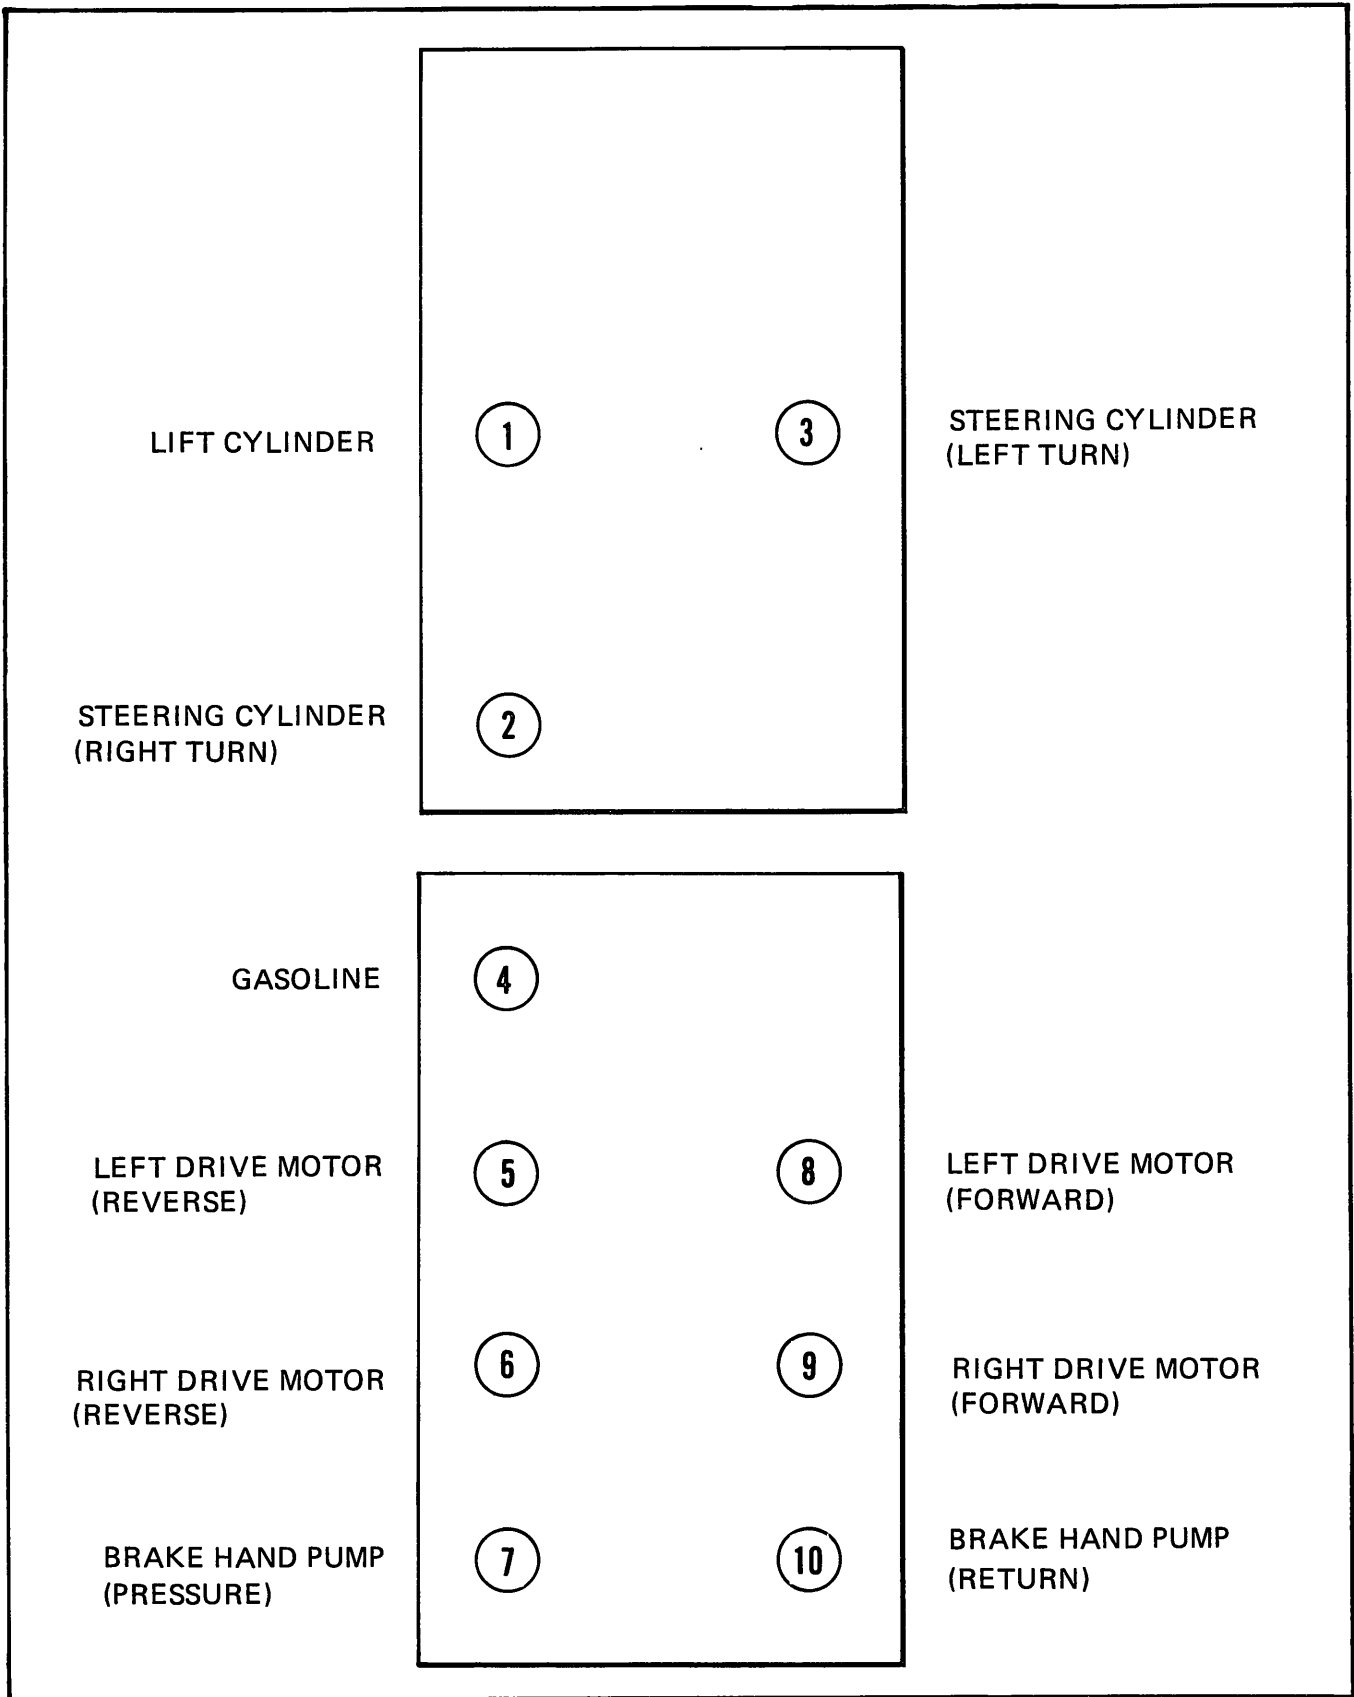
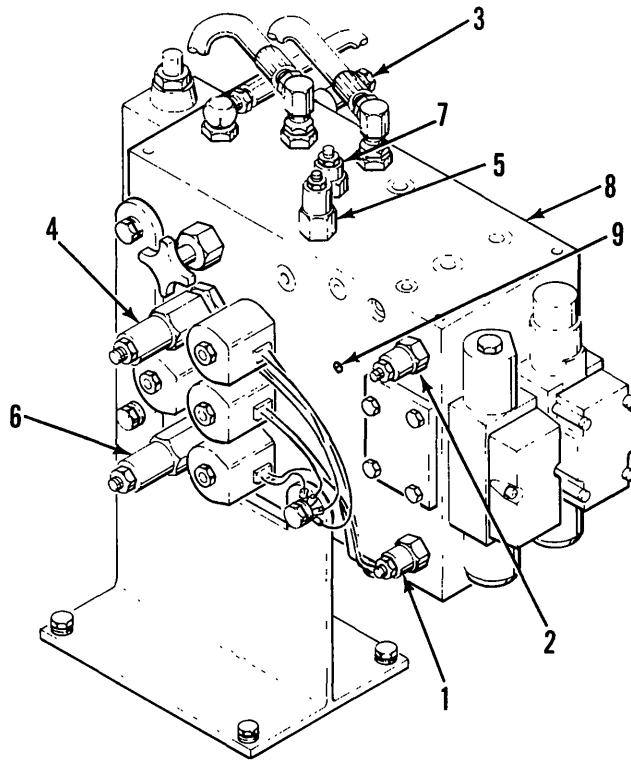

Figure 5-5. Power Module Junction Hose Orientation
Figure 5-6. Hydraulic Pressure Adjustment
(1) Refer to Figure 5-5 and disconnect the lift cylinder hose (1) and install a flow meter, pressure gage and needle valve test set with a hose to return the oil to the hydraulic reservoir.
(2) Operate the engine or electric motor 10 to 15 minutes to warm the oil.
(3) Refer to Figure 5-6 and loosen the locknut on the lift circuit relief valve (4).
(4) Screw the adjusting screw IN until it bottoms, to increase that valve's pressure setting high enough to render that valve inoperative, causing the main relief valve (5) to open first.
(5) Position the mode switch to LIFT.
(6) Position the lift switch to UP and hold it there.
(1) Remove the gauge port plug (9, Figure 5-6) and install a 3000 psi pressure gauge, or if the main relief valve has just been adjusted, leave the test set connected to the power module but remove the return line hose from the test set and connect the test set to the hose leading to the lift cylinder.
- (2) Operate the engine or electric motor 10 to 15 minutes to warm the hydraulic oil.
- (3) Position a 1500 lb. load centered on the platform.
- (4) Position the mode switch to LIFT.
- (5) Position the lift switch to UP and hold it there and observe the pressure gauge.
- (6) Loosen the locknut on the lift circuit relief valve (4, Figure 5-6) and screw the adjusting screw OUT to lower the pressure setting to 2000 psi.
- (1) Disconnect the hydraulic hose (3, Figure 5-5) to the left steer cylinder at the power module junction and install a flow meter, pressure gauge and needle valve test set. Attach the disconnected hose to the other end of the test set to complete the circuit.
- (3) Position the mode switch to DRIVE.
- (4) Position the steer switch to LEFT and hold it there. Observe the pressure gauge as the steer cylinder bottoms.
- (5) The gauge should read 1000 psi with the cylinder bottomed. If not, loosen the locknut on the steering relief valve (3, Figure 5-6).
- (6) Back the adjustment screw OUT until the pressure drops to 900 psi then slowly turn the screw IN to raise the pressure to 1000 psi. Lock the screw with the locknut.
- (7) Release the steer switch, shut down the engine or electric motor and remove the test set from the steering circuit.
- (8) Reconnect the steer cylinder hose and operate the steering system to expel trapped air and check for leaks.
(3) Remove the adjusting caps from the counterbalance valves (1 and 2, Figure 5-6).
(4) Operate the engine or electric motor 10 to 15 minutes to warm the hydraulic oil.
(5) Position the mode switch to DRIVE.
(6) Position the joystick to FORWARD.
(7) Close the needle valve on the brake hose.
(8) Adjust the REVERSE counterbalance valve (2, Figure 5-6) by turning the adjustment screw OUT until the pressure gauge indicates 1000 psi then slowly turn the screw IN until the gauge indicates 500 psi. Lock adjustment with the locking cap.
(9) Position the joystick control to REVERSE.
(10) Adjust the FORWARD counterbalance valve by turning the adjustment screw OUT to achieve 1000 psi then slowly turn the screw IN to reach 500 psi. Lock the adjustment with the lock cap.
(11) Return the joystick to neutral.
(12) Reconnect the hoses to the drive motors.
(13) Remove the gauge and needle valve from the brake circuit and reconnect the hose to the brake cylinder. Bleed the brake cylinder of trapped air.